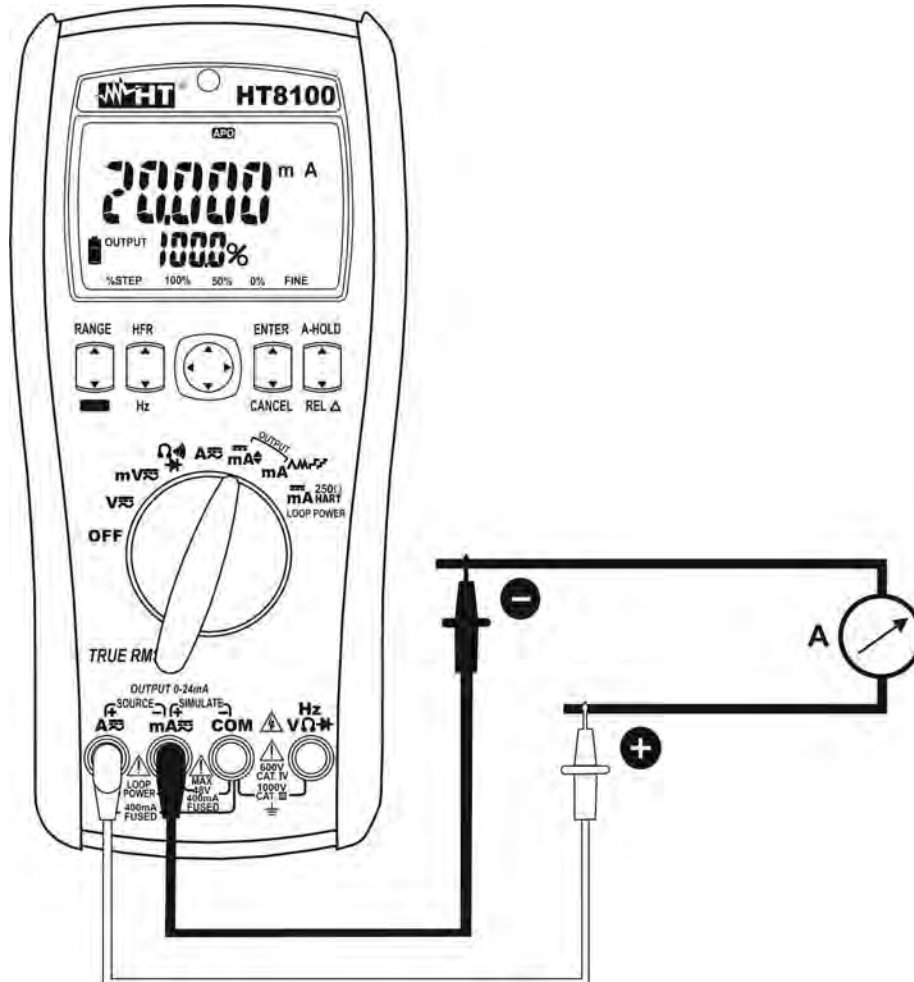

Fig. 8: Use of the instrument for DC current generation
5. Position the red lead and the black lead respectively in the points with positive and negative potential of the passive external device which must be supplied (see Fig. 8)